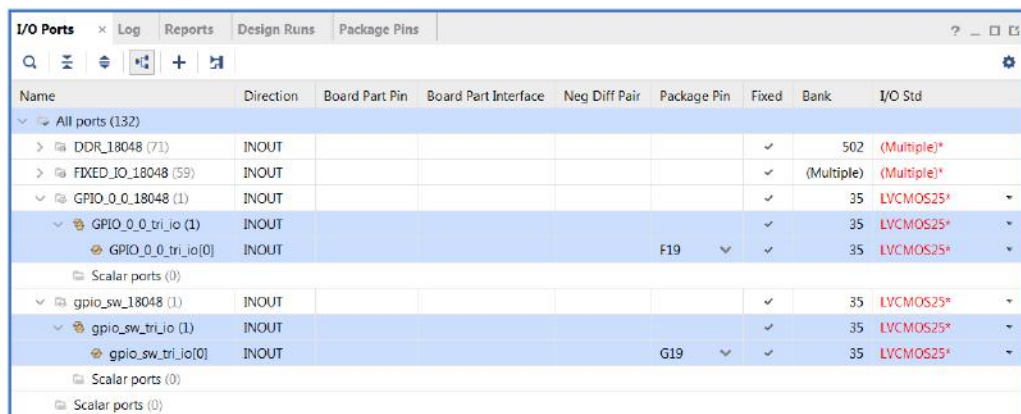

Figure 3-10: I/O Port Properties
29. Find **GPIO_0_0_tri_io[0]** and set the following properties, shown in Figure 3-10:
30. Find **gpio_sw_tri_io[0]** and set the following properties, shown in Figure 3-10: